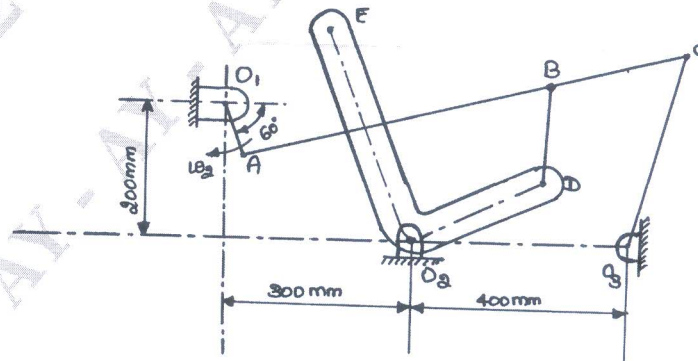

Fig.Q4(b)
- The mechanism of a wrapping machine as shown in Fig.Q4(b) has the following dimensions $O_1A = 100\text{mm}$; $AC = 700\text{mm}$; $BC = 200\text{mm}$; $O_3C = 200\text{mm}$; $O_2E = 400\text{mm}$; $O_2D = 200\text{mm}$ and $BD = 150\text{mm}$. The crank O_1A rotates at uniform angular velocity of 100 rad/sec. Locate all instantaneous centres and find velocity of the point 'E' of the bell crank lever by instantaneous centre method.